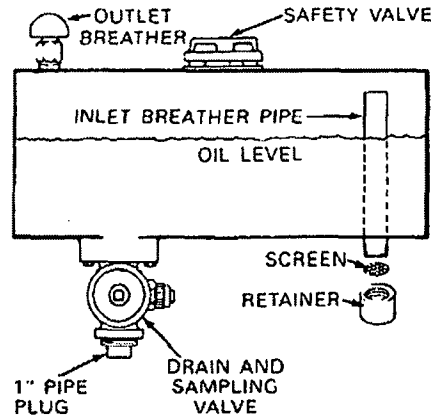

Figure 2.
1. Install the open-breather system on the tap-selector compartment (Figure 2).
The tap-selector compartment is open-breathing. The purpose of an open-breathing system is to exhaust the gases formed by breakdown of the oil by contact arcing. These gases can have a plating effect on copper and copper alloy surfaces which increases contact resistance. The compartment is also equipped with a safety valve (Figure 2) to exhaust any excessive pressure build up.